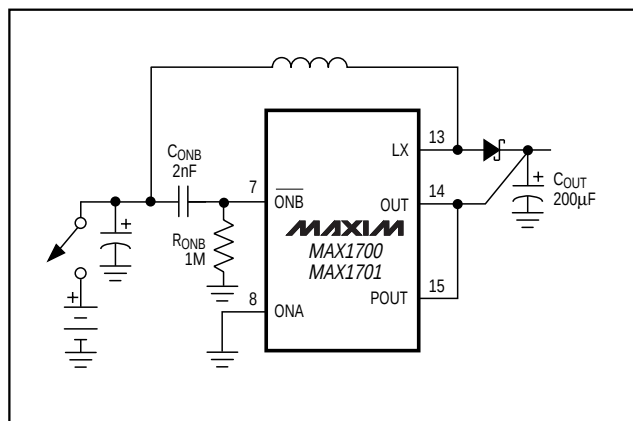

Figure 12. Connecting C_{ONB} and R_{ONB} when Switch or Battery-Contact Bounce Is Anticipated
1) Connect a capacitor (C_{ONB}) from $\overline{ONB}$ to V_{IN} , a $1M\Omega$ resistor (R_{ONB}) from $\overline{ONB}$ to GND, and tie ONA to GND (Figure 12). This RC network differentiates fast input edges at V_{IN} and momentarily holds the IC off until V_{IN} settles. The appropriate value of C_{ONB} is 10^{-5} times the total output filter capacitance (C_{OUT}), so a C_{OUT} of $200\mu F$ results in $C_{ONB} = 2nF$.